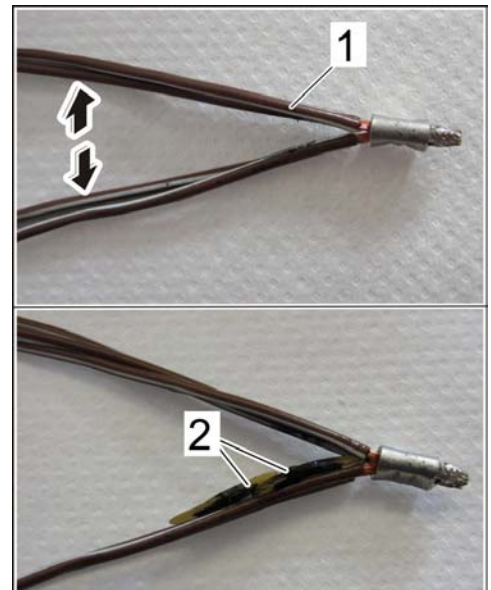

Figure 10
- 10.1 Open up splice connection lines ⇒ *Figure 10 -1-* as shown ⇒ *Figure 10 -arrows-*.
- 10.2 Pull off backing sheet on two pieces of additional adhesive ⇒ *Figure 10 -2-* and position between the splice connection lines.